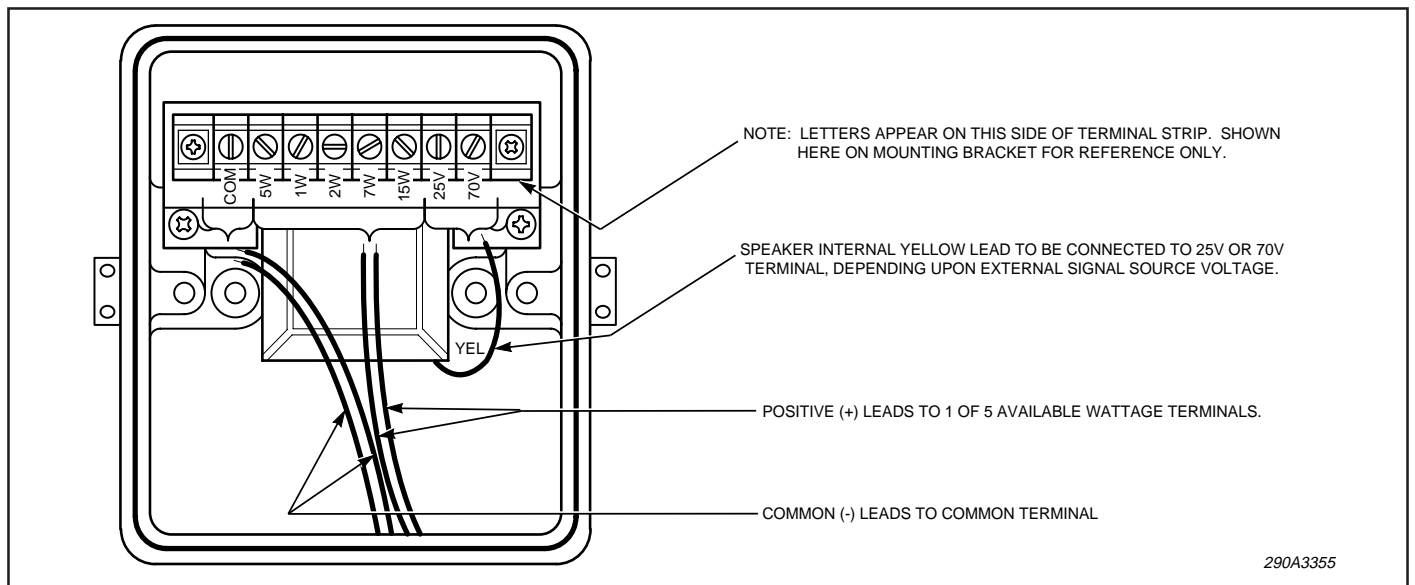

Figure 3. Internal Multi-tap Wiring Set-up.
2. See Figure 3. Connect the yellow lead, found in the speaker, to the 25V or 70V terminal as appropriate.
A. After installation is complete, be sure to test the system to verify that each speaker operates satisfactorily. If it is found that the unit is too loud for its location, a lower wattage tap may be selected. Carefully remove the housing cover and move the positive (+) lead to a lower wattage tap (see Figure 3). Reinstall the housing cover and retest.